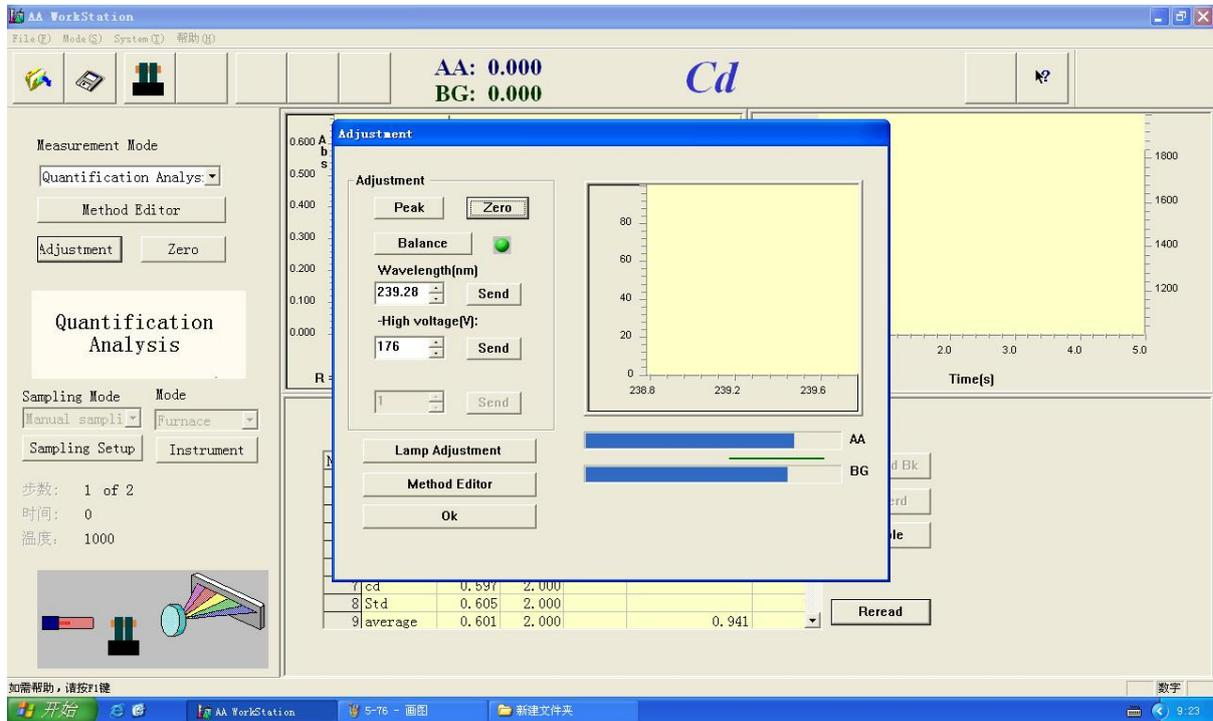

Figure 5-77
3. Press "Balance", Figure 5-77 pops up